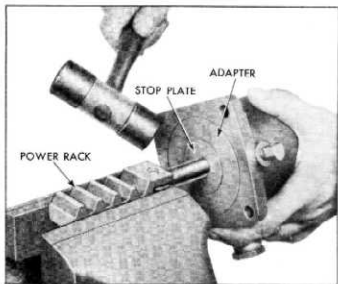

Fig. 34—Removing Cylinder from Piston
1. Remove gasket and place power rack in a vise with jaws against sides of rack (fig. 34). Tap the cylinder off adapter and piston assembly.